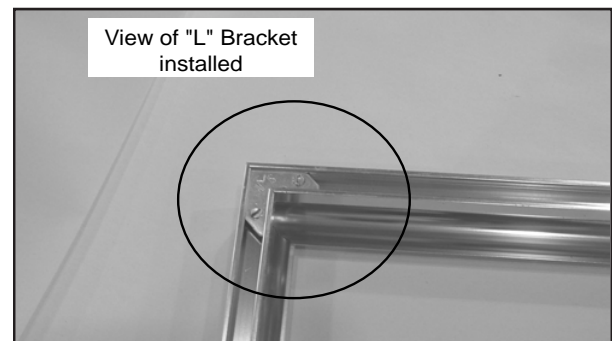

Figure 36.4
3. Connect the trim pieces together using the "L" Brackets supplied. **Figure 36.4.**